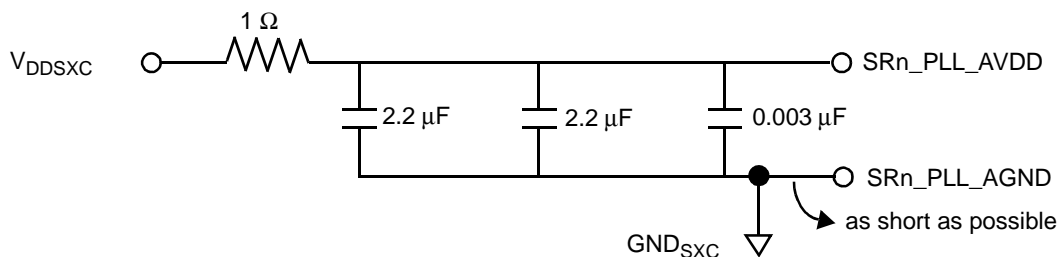

Figure 38. SerDes PLL Supplies
- Couple inputs SR1_PLL_AVDD and SR2_PLL_AVDD with SXCVDD1 and SXCVDD2 power rails, respectively, using an RC filter (see Figure 38).
Each SerDes PLL power supply must be filtered using a circuit similar to the one shown in Figure 38, to ensure stability of the internal clock. For maximum effectiveness, the filter circuit should be placed as closely as possible to the SRn_PLL_AVDD ball to ensure it filters out as much noise as possible. The ground connection should be near the SRn_PLL_AVDD ball. The $0.003 \mu F$ capacitor is closest to the ball, followed by the two $2.2 \mu F$ capacitors, and finally the 1Ω resistor to the board supply plane. The capacitors are connected from SRn_PLL_AVDD to the ground plane. Use ceramic chip capacitors with the highest possible self-resonant frequency. All trances should be kept short, wide, and direct.